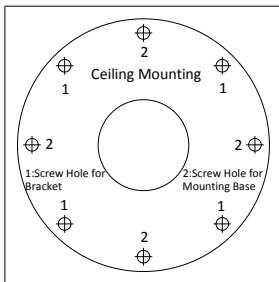

Figure 2-4 Drilling Holes in the Wall
2. Drill screw holes in the wall using the number “1” holes on the drill template. Refer to the Figure 2-4.
2. Drill holes in the wall using the number “2” holes on the drill template. Refer to the Figure 2-4.